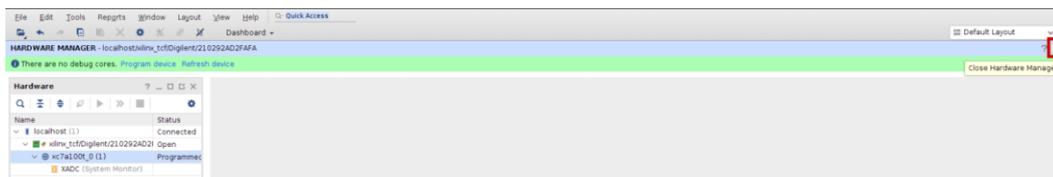

Figure 114. Close the Hardware Manager
- h. Finally, **close the Hardware Manager** by clicking on the X button on the top right of the Hardware Manager pane in Vivado (Figure 114), so that Vivado releases the board.